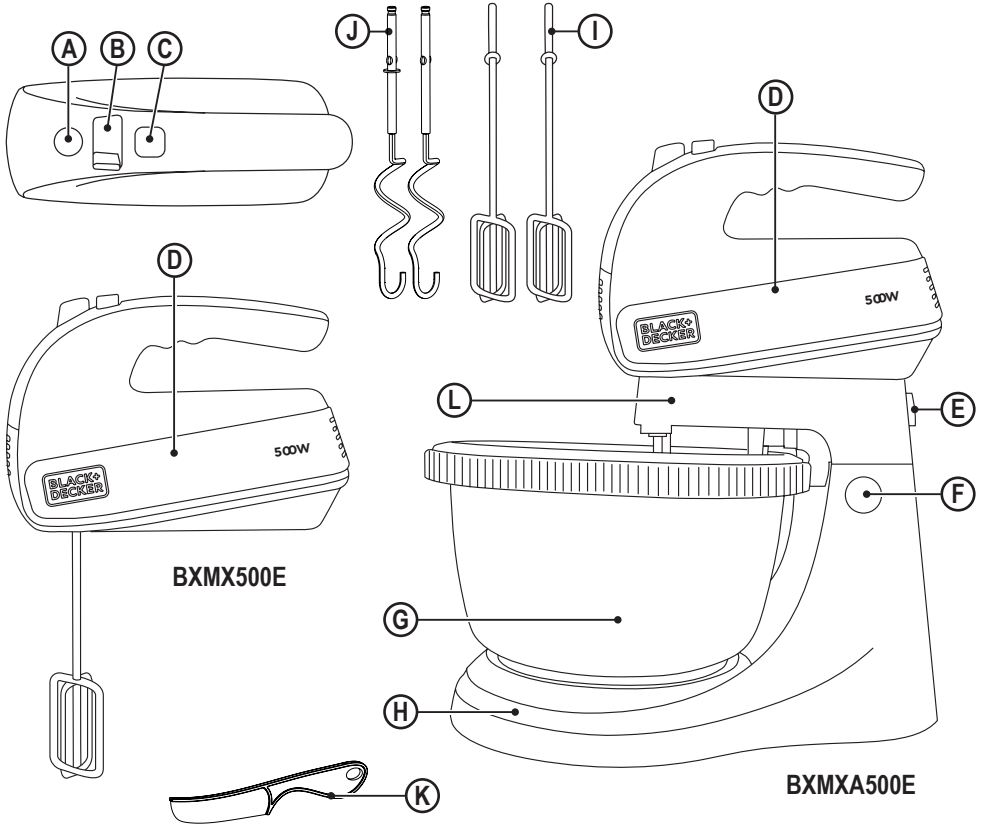

Fig.1
- ◆ Place the accessory (I, J) you want to use to motor body accordingly. (Fig.1).
- ◆ Turn the appliance on, by using the speed selector control (B).